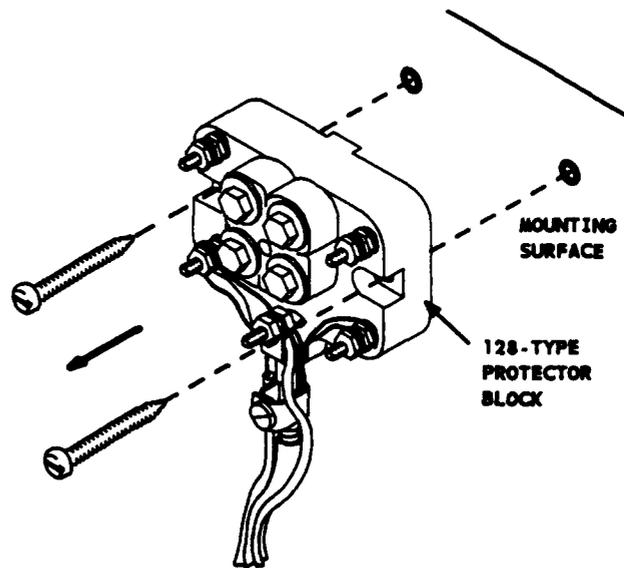

Figure 16. Removing Cover of TII Protector
- (1) Remove the outside cover of the protector. **DO NOT** remove any wiring or ground connections from the 128-type protector block. Then, remove the screws mounting the protector block onto the wall (Figure 16).